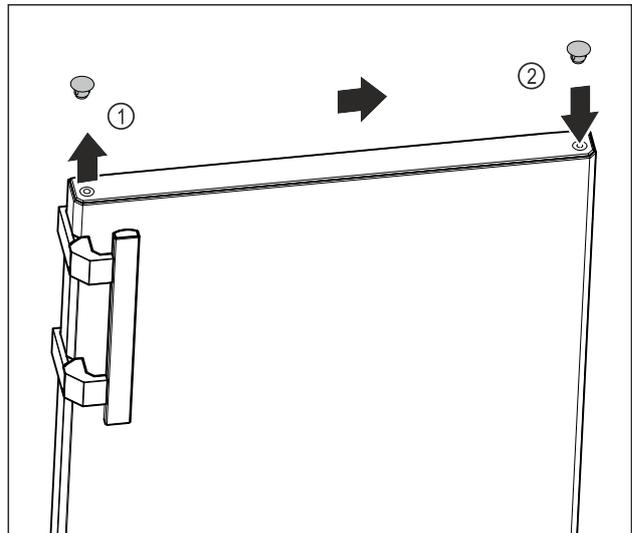

Fig. 16
- ▶ Carefully lift the cover plug on the top of the door Fig. 16 (1) with a slotted screwdriver.
- ▶ Insert the cover plug on the opposite side. Fig. 16 (2)